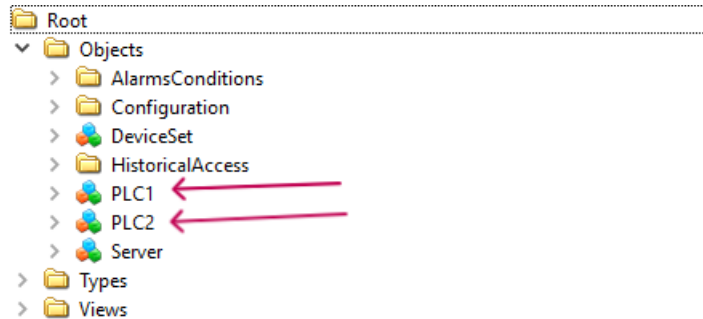

Fig. 4.28: . .
- At this point, the *OPC UA Server* should expose the data from the projects you have configured. This can be checked using *UaExpert*, as shown in Fig. 4.28.